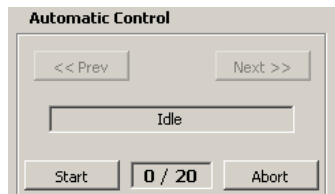

Figure 2.14.3: **Automatic Control** mode in idle stage
- Back in the Scan tab, the **Automatic Control** is shown as Figure 2.14.3, click start